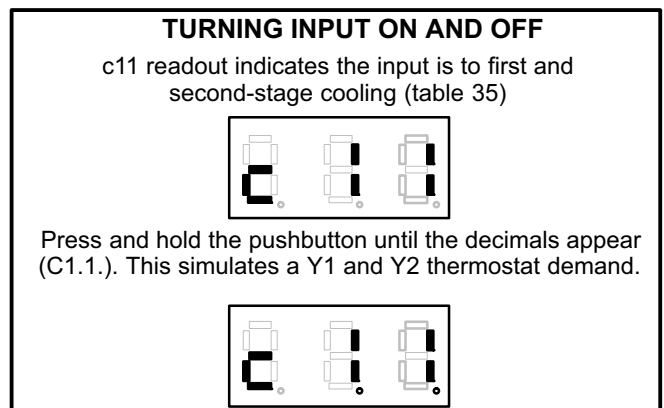

FIGURE 51
- 2-Press and hold the pushbutton to turn "ON" an output. A decimal indicates the output is energized. Press and hold the pushbutton until the decimal disappears. This indicates the output is turned "OFF". See figure 51.